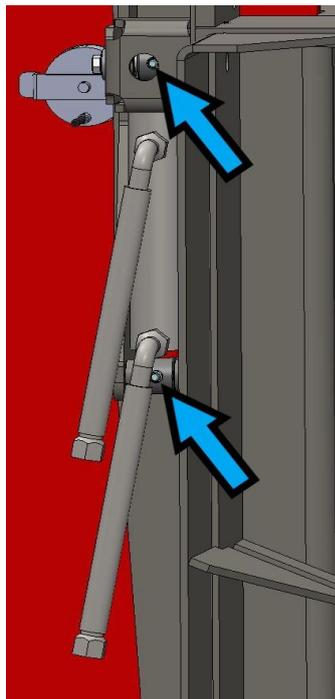

Figure 43.
3. Left-side nipples of the multiplier knife (2 pcs, Figure 43).